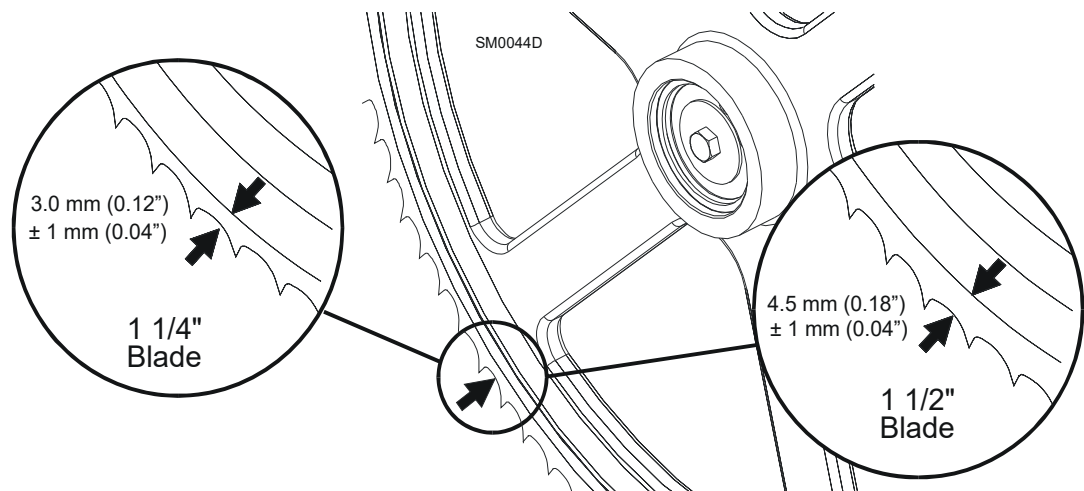

FIG. 5-11
**See Figure 5-11.** The horizontal tilt of the blade wheel should be adjusted so that the gullet of a 1-1/4" blade is 1/8" (3 mm) out from the front edge of the wheel ( $\pm 1,5$  mm). The gullet of a 1-1/2" blade should be 3/16" (4.5 mm) out from the front edge of the wheel ( $\pm 1/26$  [1 mm]). Do not let the teeth ride on the wheels.